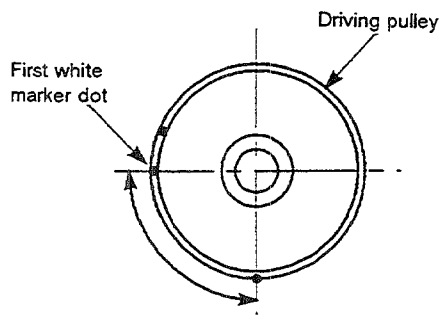

Fig. 11
The origin detecting signal should be adjusted so that the hole sensor is turned ON (lights up) when the white marker dot engraved on the driving pulley is brought to the position as illustrated in Fig. 11.
<p>Pressing the second push-button on the control box, turn ON the power to the machine. (That makes the machine enter the function setting mode. In this case, the sewing machine will not be operated by depressing the foot pedal.)</p> <ol style="list-style-type: none"> <li>1) Turn the driving pulley by hand until the white marker dot engraved on the driving pulley is brought to the position shown in Fig. 11.</li> <li>2) Loosen screw ① in the origin detecting magnet and adjust so that the hole sensor LED lights up at the aforementioned moment.</li> </ol> <p>Important point for the adjustment</p>  <p>The origin detection signal should be input as long as the upper detection signal is being input when the sewing machine stops. The origin detection signal should not overlap the upper detection signals input before the sewing machine stops and after the sewing machine re-starts.</p>	<ul style="list-style-type: none"> <li>● If the origin detecting timing is excessively advanced, the sewing machine will stop without actuating the thread trimmer.</li> <li>● If the origin detecting timing is excessively retarded, the thread trimmer actuates when the sewing machine runs at high speed. In this case, an abnormal noise will be produced by the thread trimmer.</li> <li>● If the origin detecting timing is not improperly adjusted, error message "E34" will be shown on the display.</li> </ul>